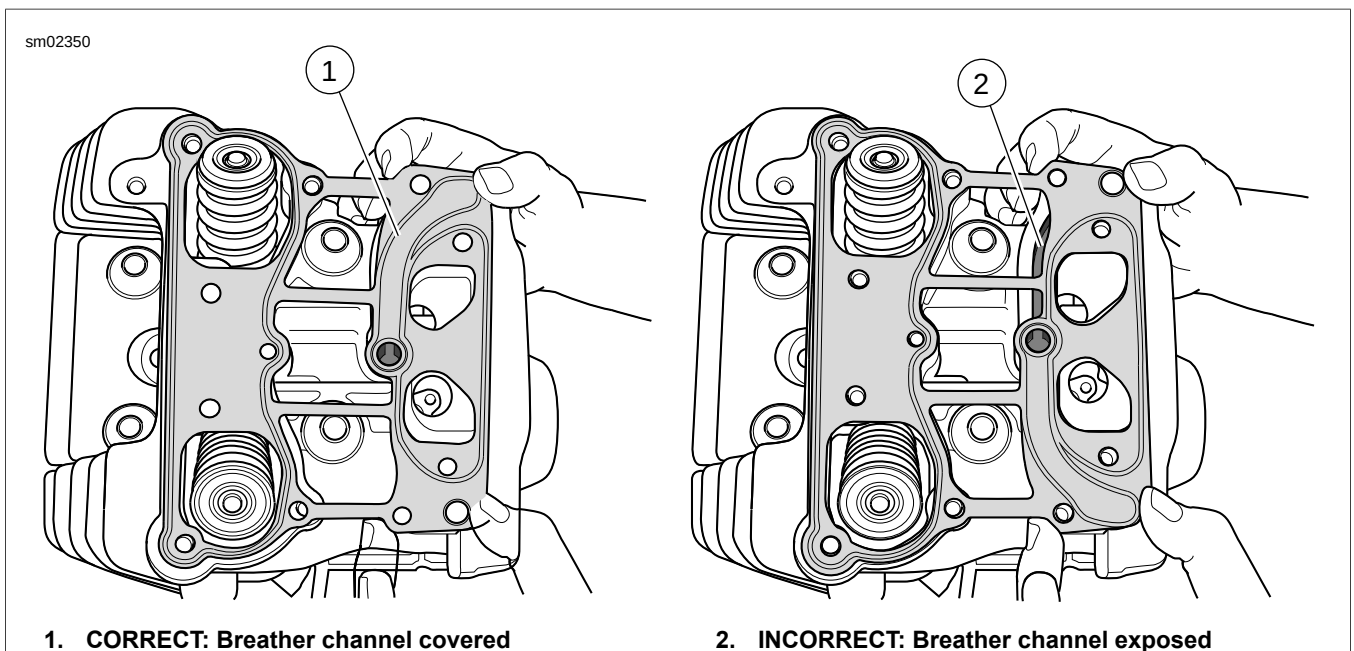

Figure 3-81. Install Rocker Housing Gasket (Rear Cylinder Shown)
7. See Figure 3-81. Install a **new** rocker housing gasket on the cylinder head. Verify that the rocker housing gasket covers the breather channel.